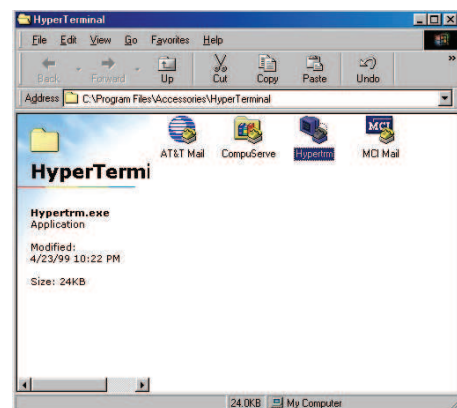

Figure 20
Purpose: Describes how to set up PowerBack's RS-232 port using Windows® 95/98's HyperTerminal program (see figures 20 to 27)
Step 1: The path is **Programs/Accessories/Communications/HyperTerminal** as shown on Figure 20.